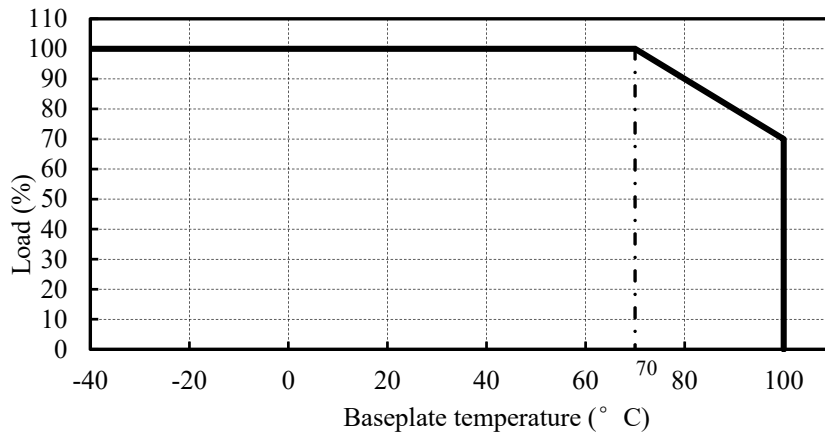

Fig.6-13 Derating curve
2. There is limitation on baseplate temperature range for as shown in fig.6-13.